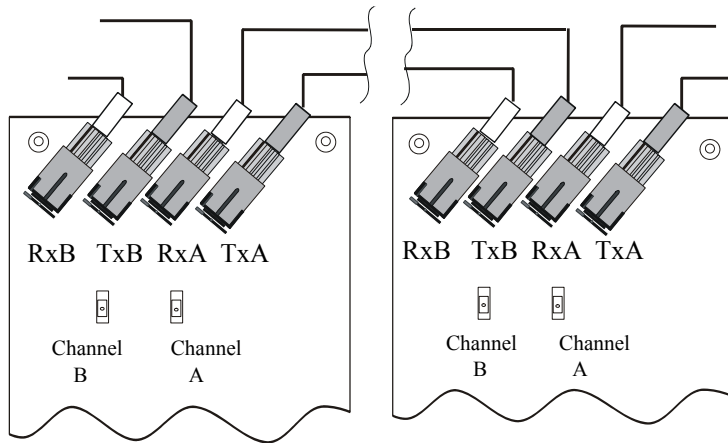

Figure 8 NCM-F Connection
When connecting consecutive nodes/repeaters, note that fiber cable must exit one board on transmit (TX) and enter the next node/repeater on receive (RX). Also, note that the fiber-optic pair (RX, TX) from port A of one Node/Repeater may be connected to either Port A or Port B of another node/repeater (refer to Figure 8). An NCM-F may be connected to any of the following devices: